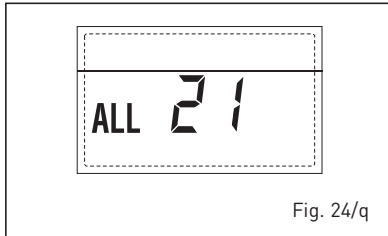

Fig. 24/q
- **SAFETY THERMOSTAT INTERVENTION SECOND MIXED ZONE "ALL 22" (fig. 24/r)**